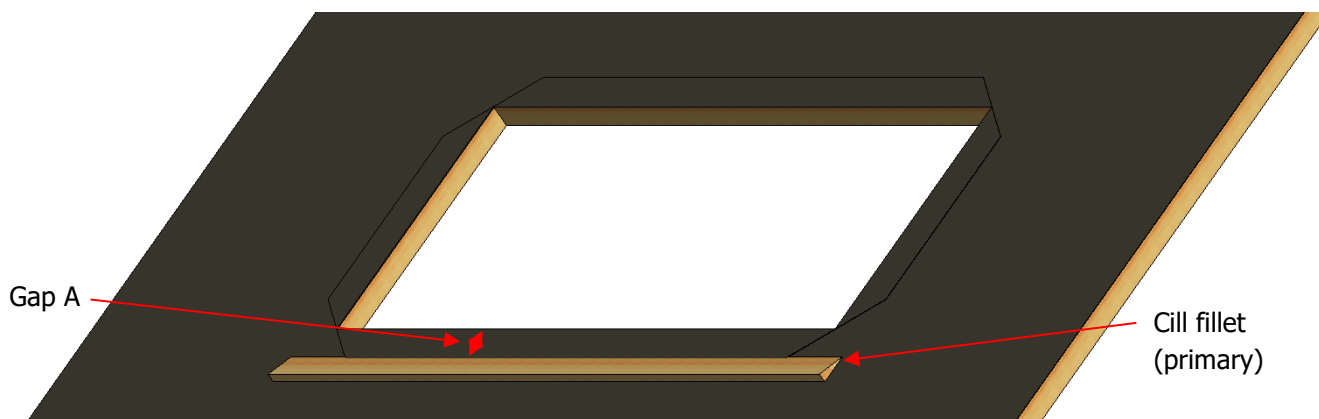

Fig. 2 – Cill tilting fillet installed
- Consider the distance required between the cill of the product and the fillet (fig. 2 – gap A) – see sales drawing